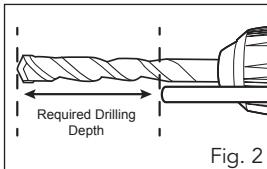

Fig. 2
2. Adjust the depth rod so the drill bit extends beyond the end of the depth rod to the required drilling depth (Fig. 2).